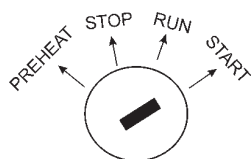

Figure 52. Engine Ignition Switch (Start)
9. Turn the ignition key to the "**START**" position (Figure 52) and listen for the engine to begin cranking. After the engine starts release the ignition key.